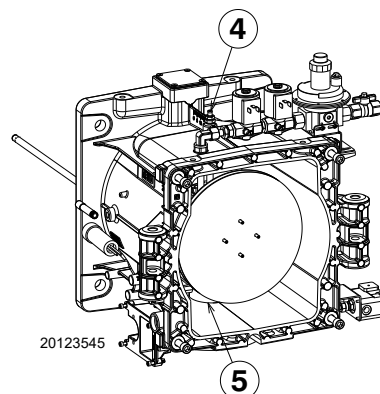

Fig. 21
- F release the gas distributor from the seat 5)(Fig. 21) and remove it.